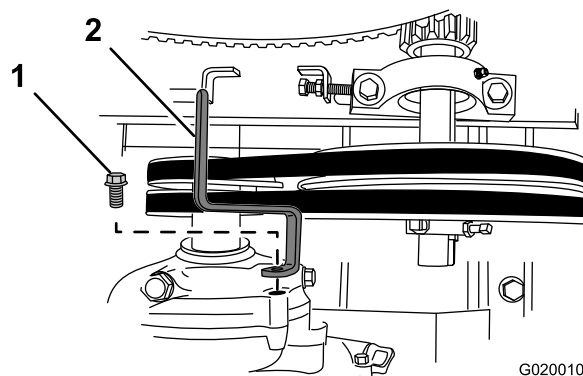

Figure 65
6. Remove the bolt that secures the belt guide to the engine, and remove the belt guide (Figure 65).
10. Loosely secure the belt guide to the engine (Figure 65) with the bolt that was removed in step 6 of Removing the Belts \(page 42\).